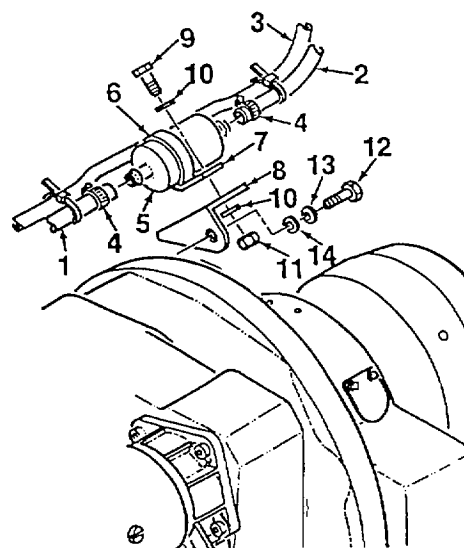

Figure 4-34. In-Line Fuel Filter
2. Loosen clamps (4, Figure 4-34) and disconnect fuel hoses (1, 2) from fuel filter (5). Separate fuel hose (3), if required, by cutting tie-wraps.
3. Remove fuel filter (5) from filter bracket (7) by loosening clamp (6).
4. Remove filter bracket (7) from mounting bracket (8) by removing screw (9), washers (10), and locknut (11).
5. Remove mounting bracket (8) from flywheel housing by removing bolt (12), lockwasher (13), and washer (14).
1. Apply loctite to threads of bolt (12, Figure 4-34). Install mounting bracket (8) to flywheel housing using bolt (12), lockwasher (13), and washer (14).
2. Mate fuel filter bracket (7) to mounting bracket (8) and secure using screw (9), washers (10), and locknut (11).
3. Install fuel filter (5) into bracket (7), ensuring proper positioning. Secure by tightening clamp (6).
4. Connect fuel hoses (1, 2) to fuel filter (5) and tighten clamps (4).